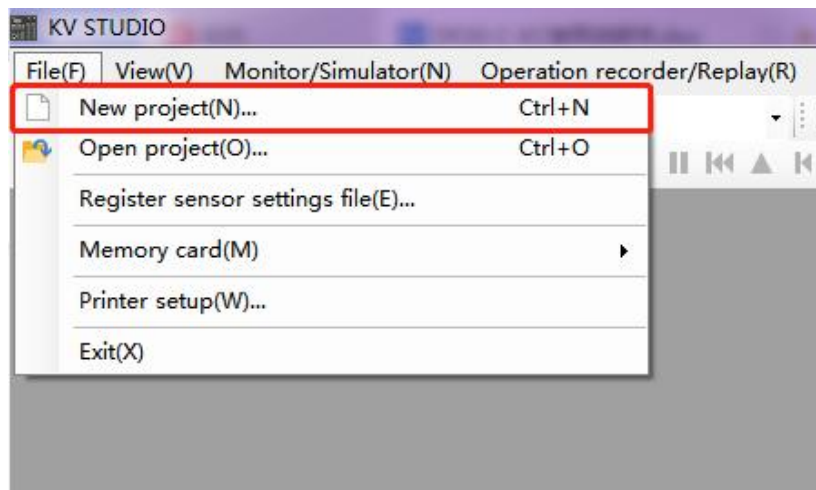

Figure 5-1-1
- Open KV STUDIO software, click "File" in the menu bar as shown in Figure 5-1-1, and click "New project":